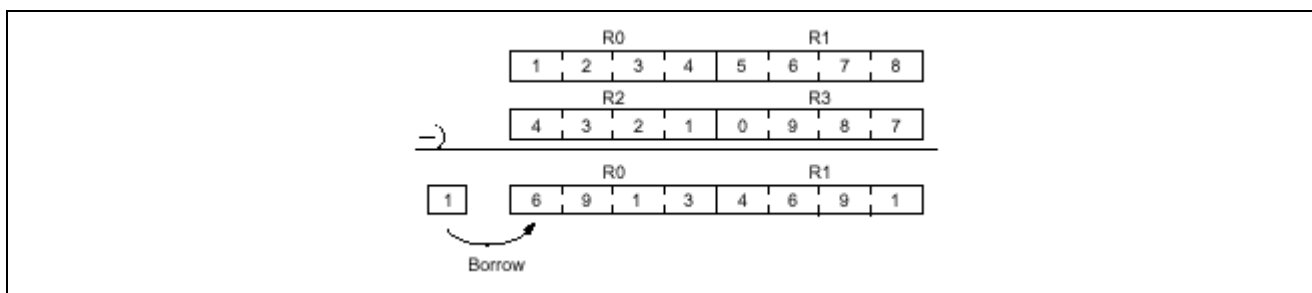

Figure 4.1 Example of Subtraction with a Borrow
- C flag = 1: A borrow occurred as a result of subtraction (see figure 4.1).